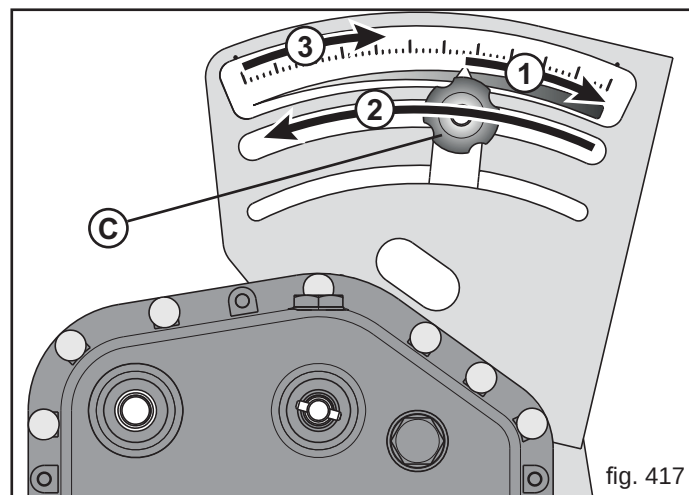

fig. 417
- 5) Loosen the fastening screw on the gear adjuster (C, Fig. 417), move the lever to «50» (1) on the gauge, return it to «0» (zero) (2) and then set it to the desired value (3) (depending on the quantity of product to be distributed), by rotating the adjuster knob. Secure the fastening screw of the gear adjuster once more.